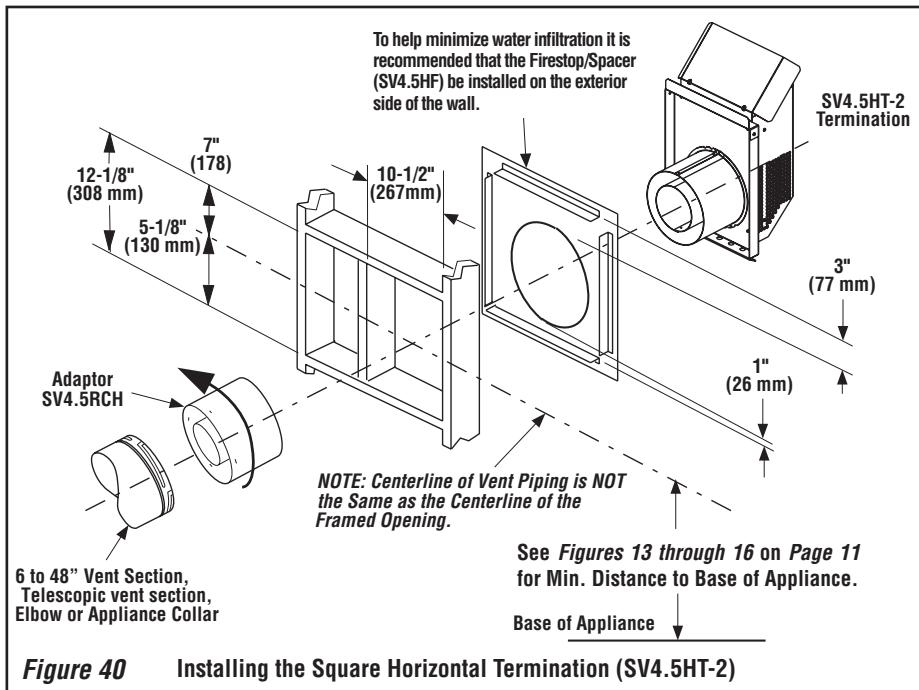

Figure 40 **Installing the Square Horizontal Termination (SV4.5HT-2)**
K. Attach termination adaptor - Attach the adaptor (adaptor - SV4.5RCH - provided with the termination) to the vent section or telescoping vent section, elbow or appliance collar as shown in **Figure 40** in the same manner as any SV4.5 vent component (refer to **Step E**).
- When using the **square** termination, install SV4.5HF (Secure Vent®), SF4.5HF (Secure Flex®) Firestop/Spacer over the opening at the exterior side of the framing, long side up, with the 3 inch spacer clearance at the top as shown in **Figure 40**, and nail into place.